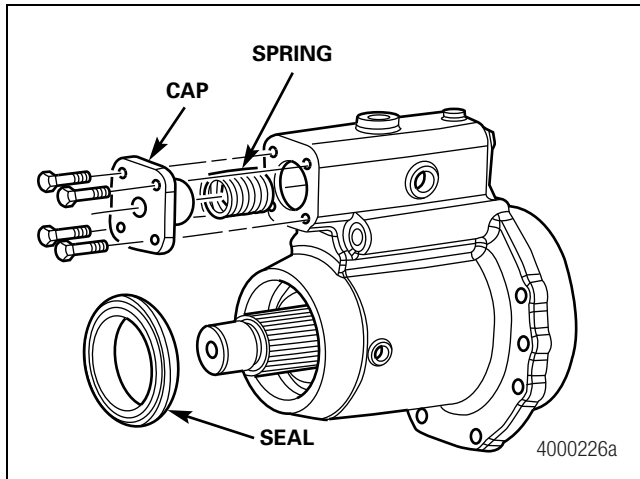

Figure 7.12
- M. Insert the spring into the housing over the push rod. Figure 7.12.
- N. Apply a thin film of Loctite® 518 gasket material to the cap surface. Install the cap with the 1/4-20 screws using Loctite® 242 sealant. Tighten the screws to 10-14 lb-ft (14-19 N•m). Figure 7.12.